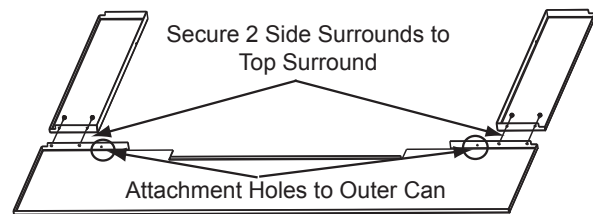

Figure 20.4
2. Using a Phillips head screw driver attach the side surrounds to the top surround using 2 #8 sheet metal screws provided with the kit. **Figure 20.4.**